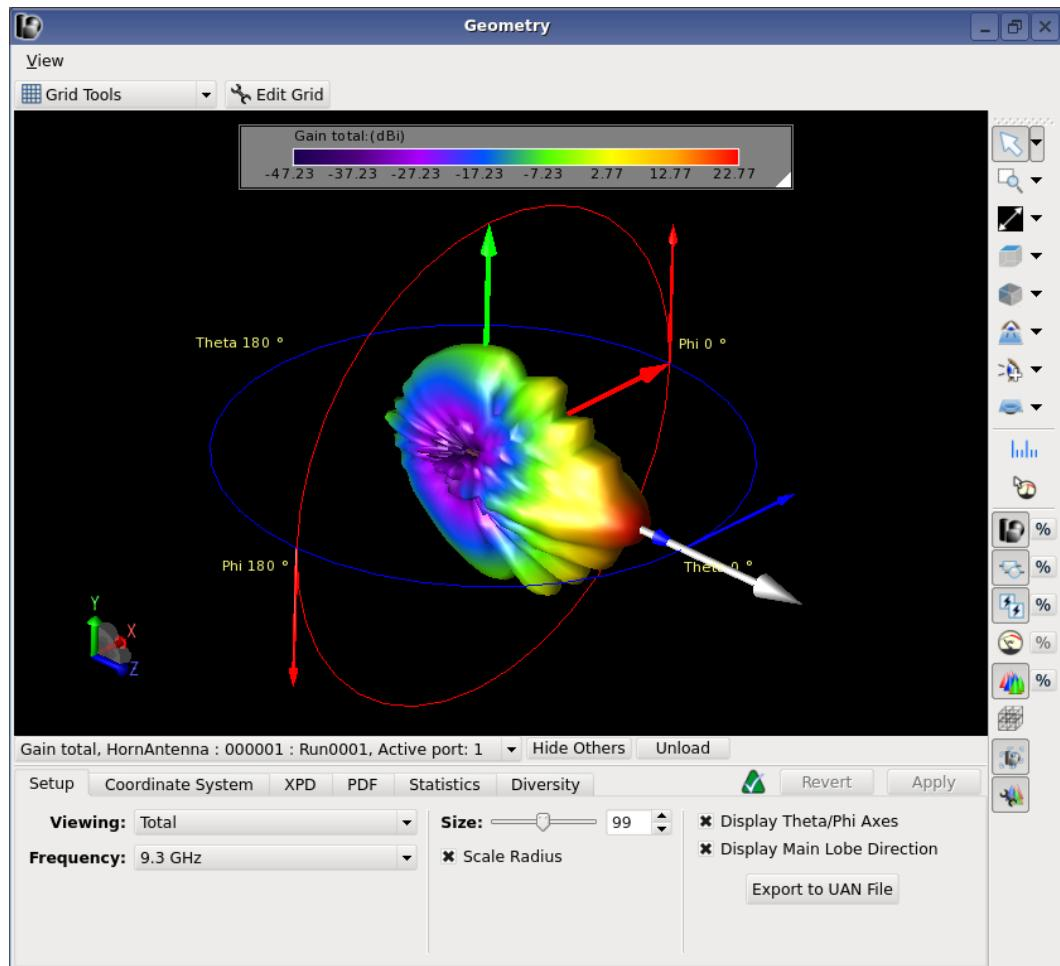

Figure 7.15: Far zone gain data for the horn antenna project
- Far zone data similar to what is shown in Figure 7.15 will appear.